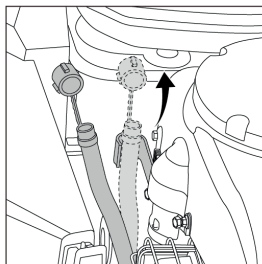

FIG.30A
3. LOCATE THE OIL DRAIN SLEEVE AND PULL IT DOWN TO REMOVE IT. (FIG.30A)